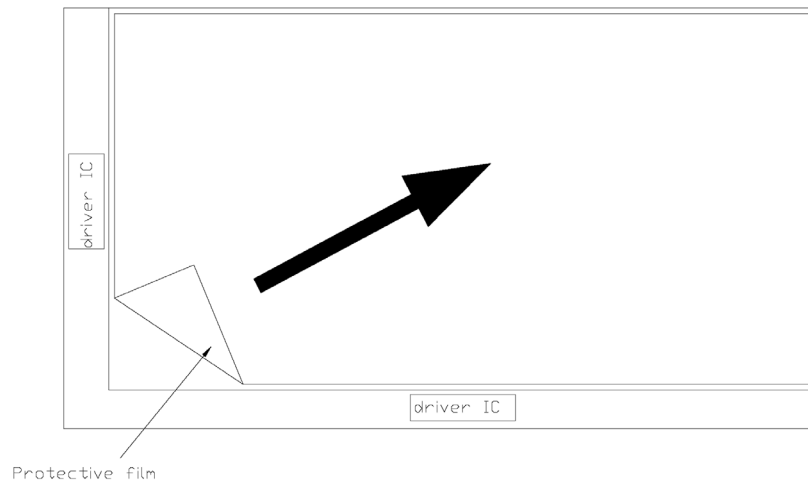

Figure 20: The way to peel off protective film
- Please following the tear off direction as figure 20 to remove the protective film as slowly as possible, so that electrostatic charge can be minimized.